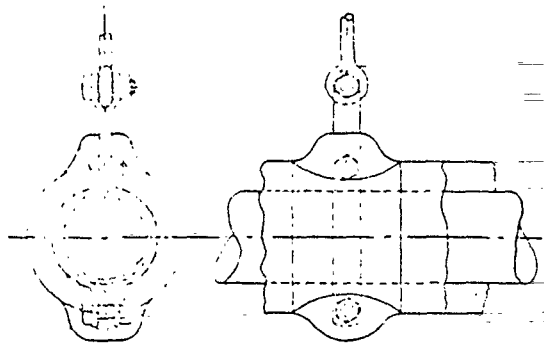
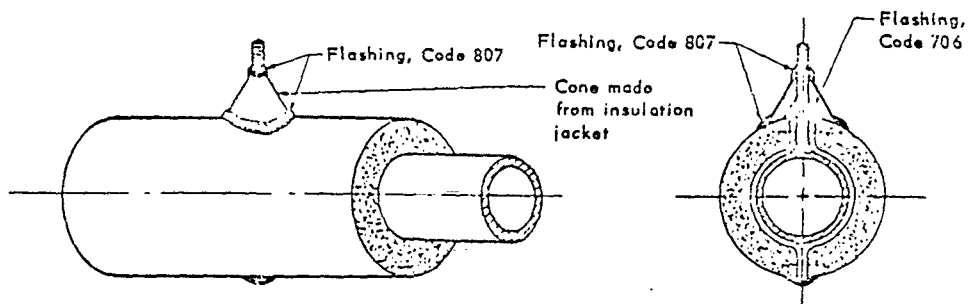

FIGURE 3
FIGURE 11
5.1 Pipe hangers attached to the pipe shall be insulated. Where possible, the pipe insulation should be cut out to fit snugly over the hanger with the outer surface of the insulation unbroken and free from bulging. Where the shape of the hanger does not permit this procedure, the pipe insulation can be butted up to the hanger and the void filled with Insulation Cement, Code 502, until flush with the pipe insulation. See Figures 3 and 4. The insulation around the hanger clamp and rod shall be sealed with Finish Cement, Code 712. When the pipe hanger is attached directly to the pipe, a watershed cone should be installed as shown in Figure 11.